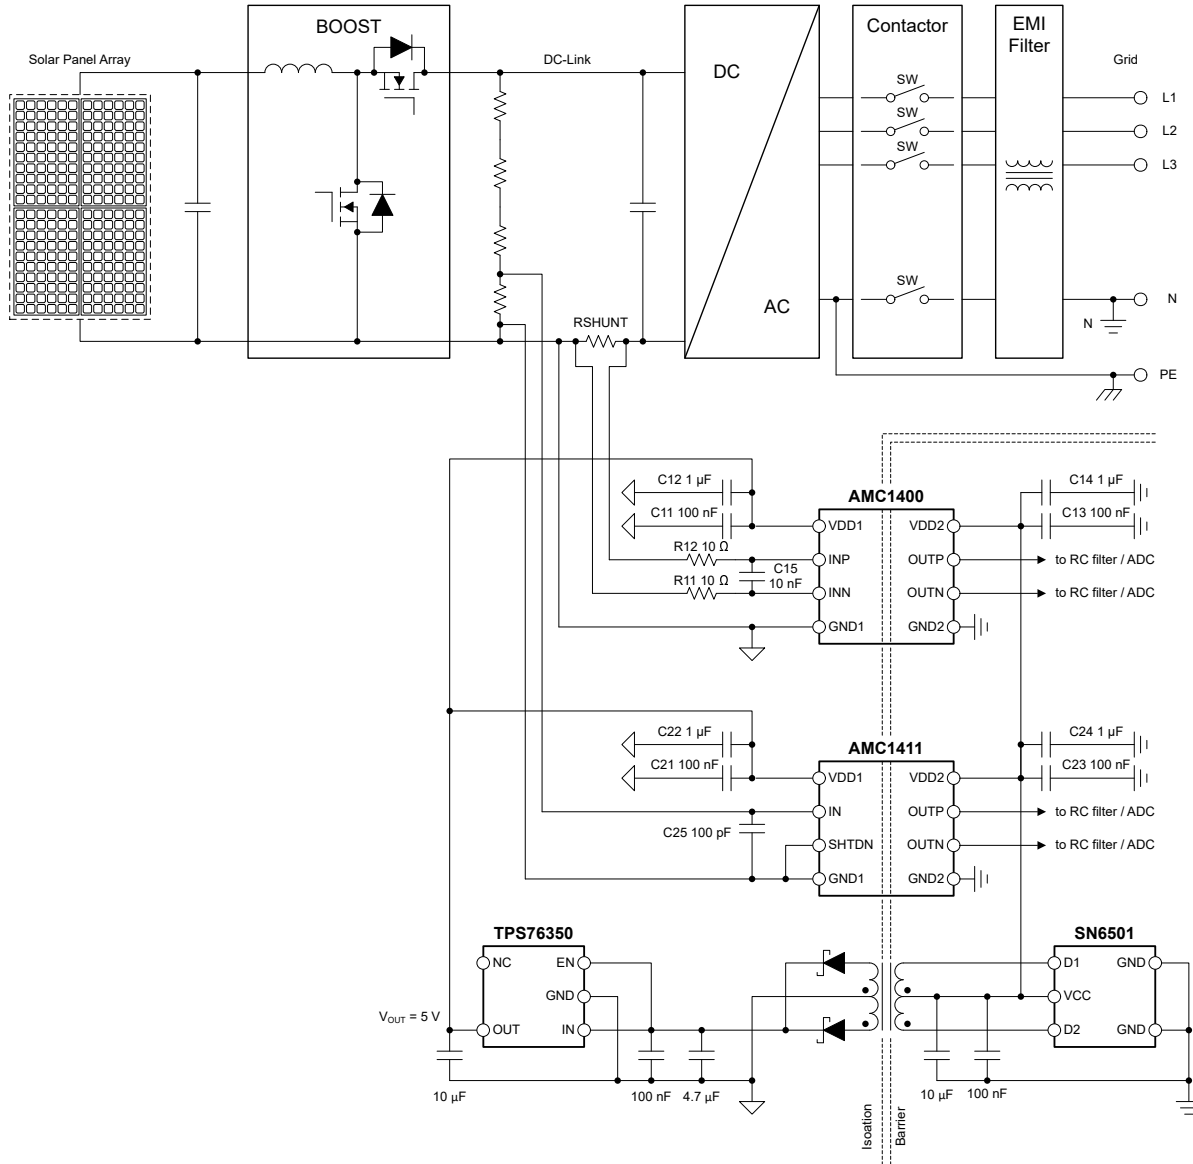

图 8-1. Using the AMC1400 for Current Sensing in a Typical Application
**图 8-1** depicts a simplified block diagram of a solar inverter supporting a 1000-V_{DC} string voltage where the AMC1400 is used to monitor the current on the 1200-V DC link. The output current of the boost converter flows through a shunt resistor (RSHUNT) and produces a voltage drop that is sensed by the AMC1400. The AMC1400 outputs a differential analog voltage that is proportional to the input signal and galvanically isolated from the high-voltage side. The differential output voltage is typically routed to an analog-to-digital converter (ADC) of a microcontroller (MCU) to complete the current-sensing signal chain. The AMC1411 is used in the same application for measuring the DC link voltage. Both devices share a common high-side power supply based on the SN6501 push-pull driver and a transformer that supports the desired isolation voltage ratings.